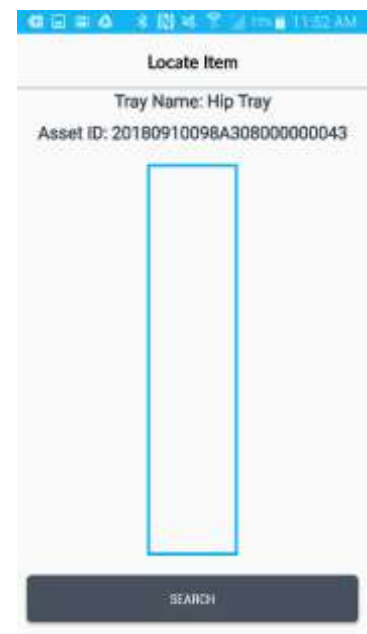
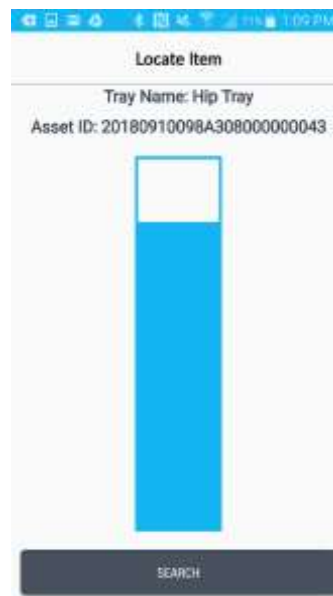

Figure 32
Figure 33
- Take the RFID Reader and scan the area for the Asset ID. The RFID Reader will beep faster as you get closer to the tray or item. The blue rectangle will turn blue to indicate how close you are to that tray or item. **Fig. 32, Fig. 33**